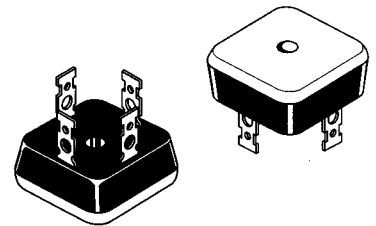

FIGURE 3.28 Integrated rectifier package.
Integrated-circuit (IC) bridge rectifiers, like the one illustrated in Figure 3.28, are also designed to be mounted onto a heat sink. There is a hole in the middle of the component to allow a mounting bolt to pass through. The bottom of the bridge may be aluminum, which is electrically isolated from all diode junctions and serves as an excellent thermal conductor. (IC bridge rectifiers are discussed further at the end of this section.)
The component case illustrated in Figure 3.28 contains an entire bridge rectifier. Typically, IC bridge rectifiers can handle average currents of 25 A (and higher) and surge currents in the hundreds of amperes. In these respects, IC bridge rectifiers are like power rectifiers. At the same time, they have high  $V_{RRM}$  and low  $I_R$  ratings, like many small-signal diodes.